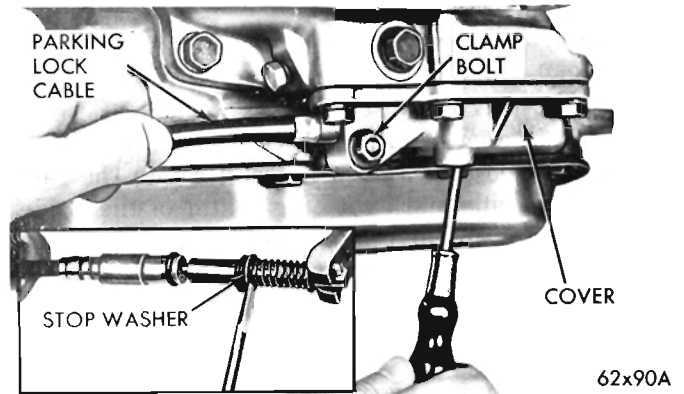

Fig. 28—Installing Parking Lock Cable
(1) Place the selector lever in the NEUTRAL position.
(2) Insert a screw driver through the plug opening and position it behind the cable adapter stop washer (Fig. 28). Hold the adapter outward while pushing the cable in as far as possible, making sure the lockspring engages the cable.
(3) Gently pull outward on the cable housing to its limit of travel, release and then tighten the clamp bolt to 10 inch-pounds torque. Reinstall the plug in the cover and tighten to 75 inch-pounds torque.